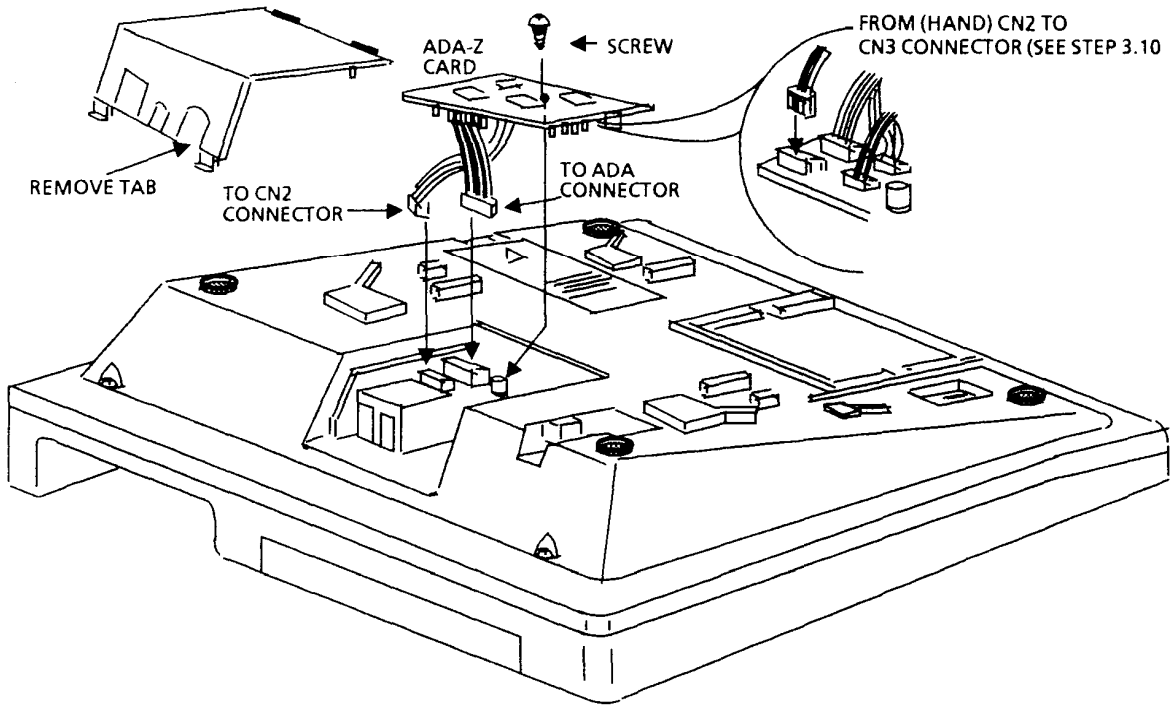

Figure 2 ADA-Z Unit Installation
- 3.11 Install the ADA-Z unit with the component side down ensuring the wires are not pinched. Secure the ADA-Z unit to the terminal housing with the screw provided as shown in Figure 2.